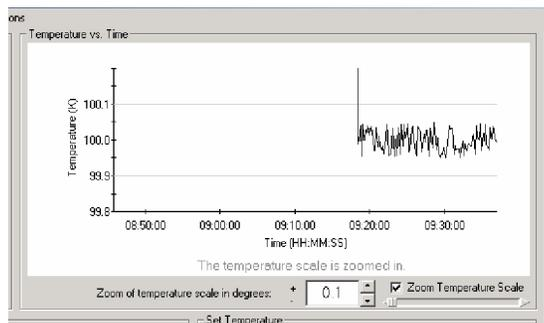

Figure 11. Zoom of temperature scale in degrees
3. Enter a scale value in the Zoom of temperature scale in degrees field (Figure 11) or adjust the slider bar below the heading Zoom Temperature Scale.